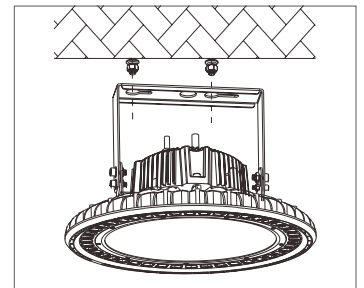
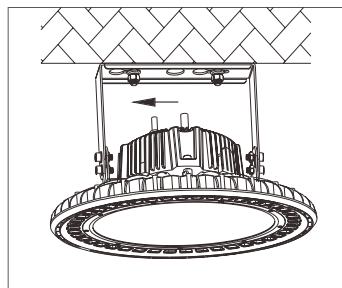

FIGURE 5
FIGURE 6
- C) Align the bracket with the anchors (Figure 5) and secure fixture to surface by sliding to lock in place (Figure 6).